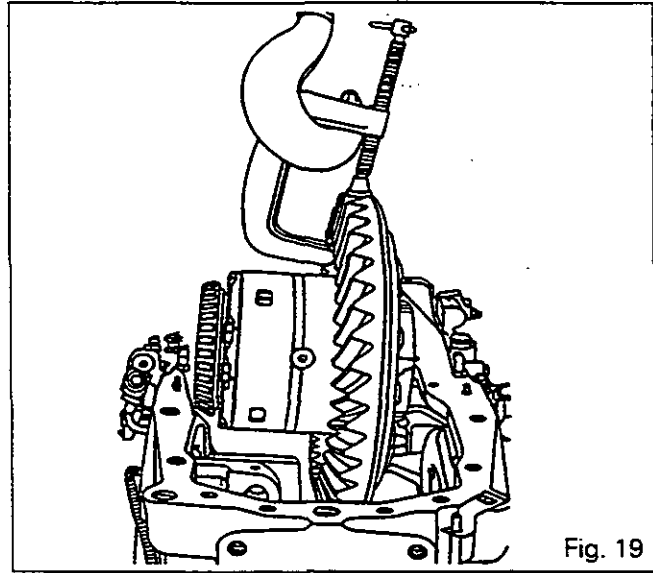

Fig. 19
- 90. Place the differential assembly in the housing (Fig. 19).
- 91. Screw in two guide studs in opposite positions and mount the right hand carrier (25).